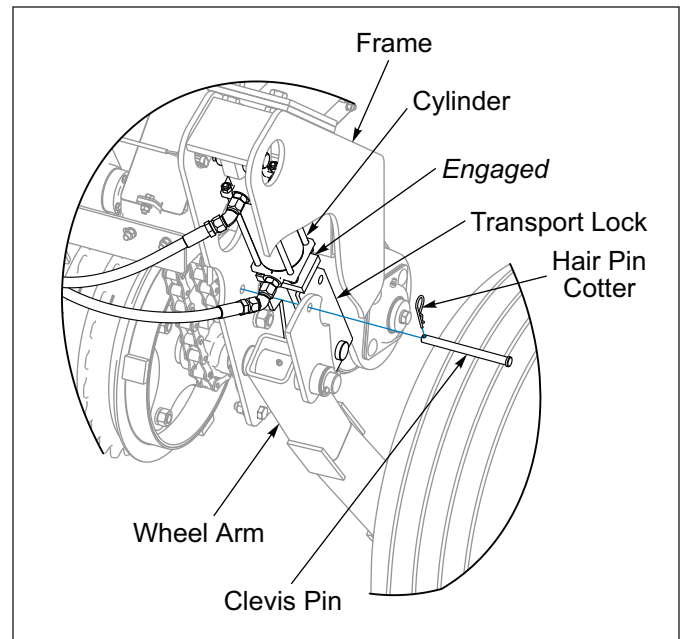

Figure 3-6: Transport Lock Engaged
5. If Transport Locks are not engaged, fully extend the Hydraulic Lift Cylinders and rotate Transport Locks in the engaged position over the Cylinder Rods. Secure with the Clevis Pins and Hairpin Cotter. **See Figure 3-6.**